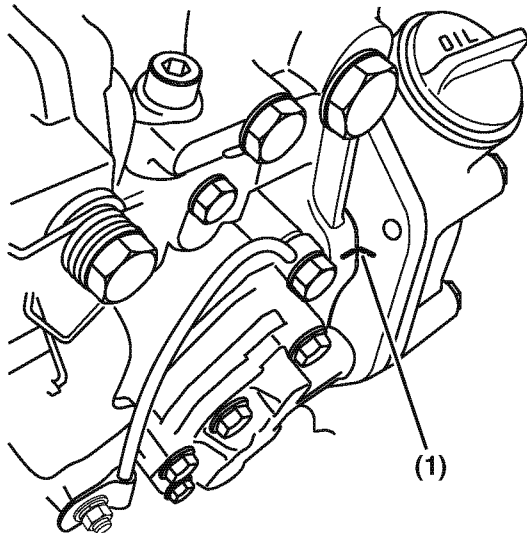

Figure 7-49
1. Secure the fuel injection pump mounting flange to the rear of the gear case housing with three nuts. Be sure to match the marks **(Figure 7-49, (1))** on the rear of the gear case housing and on the fuel injection pump mounting flange.